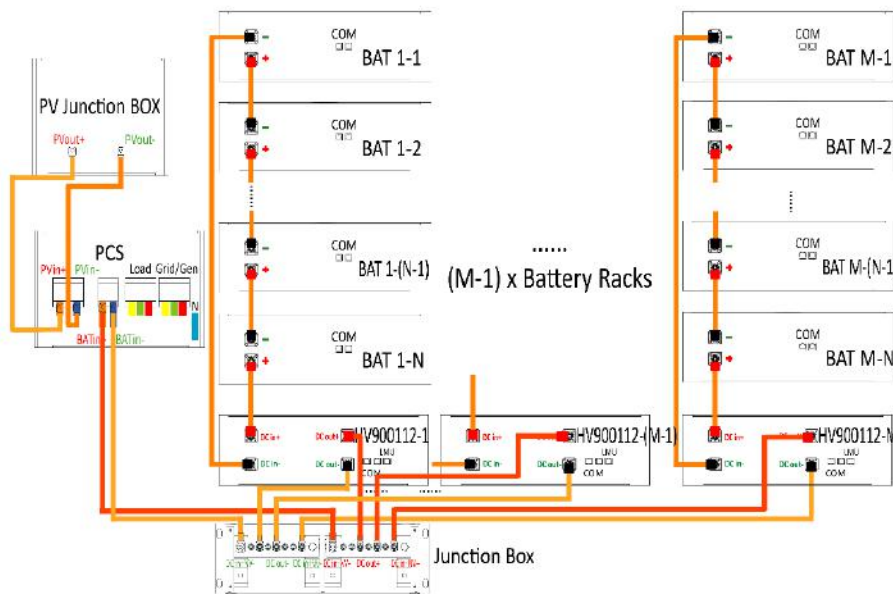

Figure 4.18 Battery side-power cables connection with junction box
- If you use the junction box, place the relevant power cables to junction box at the first, as shown in Figure 4.18. Then put the junction box in to the rack as shown in Figure 4.19.